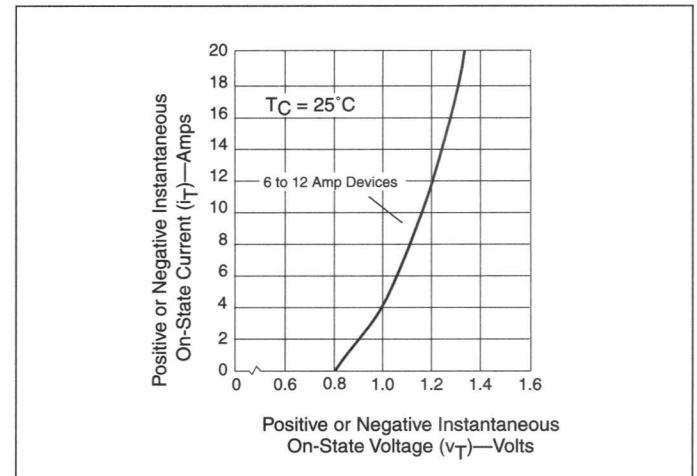

Figure 4.5 On-State Current vs On-State Voltage (Typical) (6-12 Amp Devices)
- See Figures 4.5 and 4.6 for I_T and V_T .